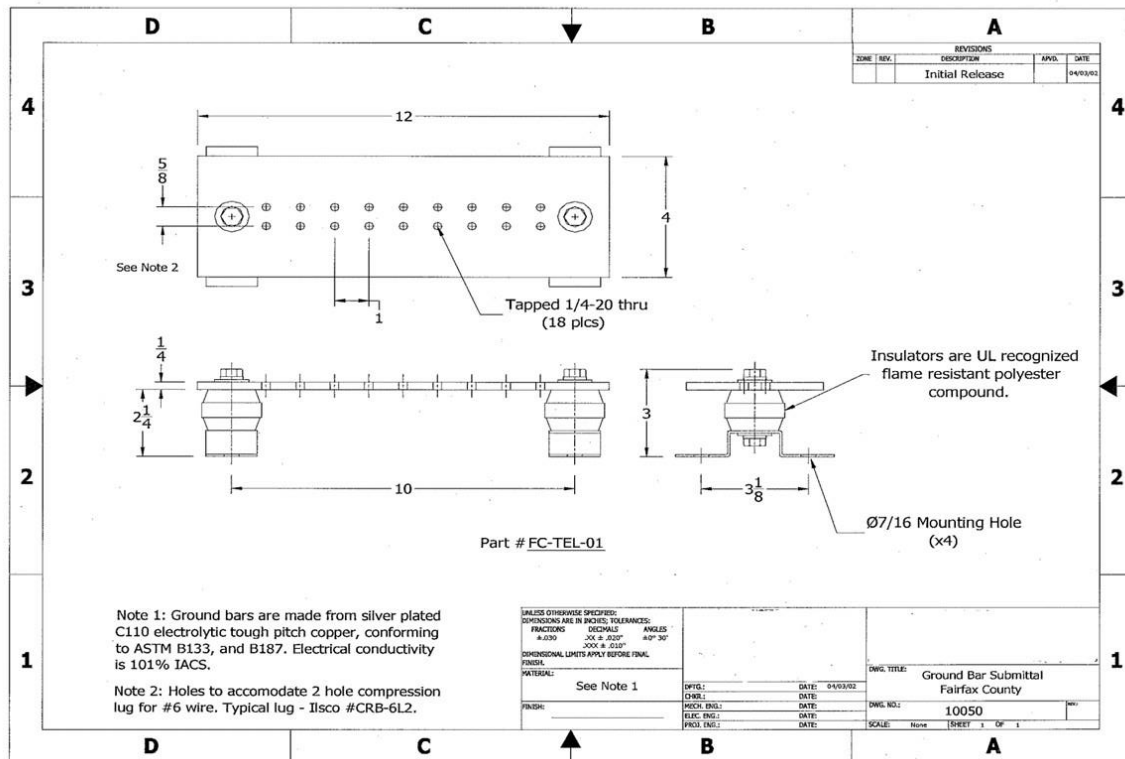

Figure 2. Telecommunications Room Grounding Requirements
All cabling systems and electronics distribution equipment shall be grounded for both safety and minimization of electromagnetic interference. A 12-inch bus bar with eighteen (18) ¼" pre-drilled holes with insulators (See Figure 2) shall be installed. An insulated #1/0 ground wire shall be installed from the bus bar to the main building ground using a double lug nut, in accordance with the NEC guidelines. All building wiring, pathways and spaces, grounding and bonding shall meet or exceed the ANSI/EIA/TIA Telecommunications Infrastructure Standards as well as the NEC Electrical Code (NFPA 70). See Figure 2 for TR grounding requirements.